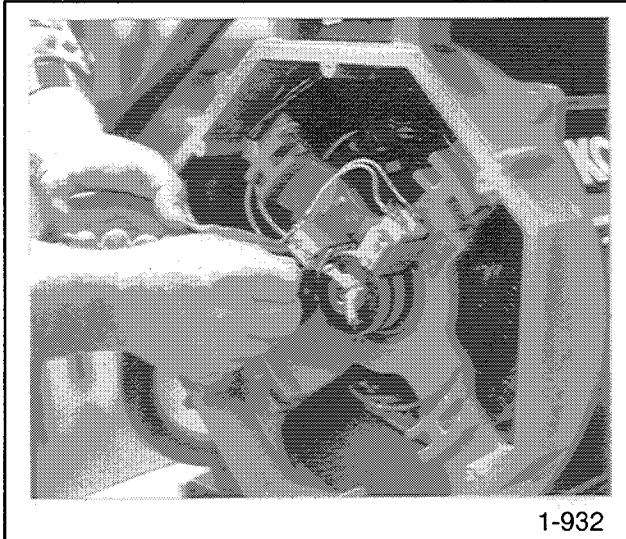

Figure 8-6. Raising Brushes
14. Raise brushes in holders (two sets) by pushing leads upward in the slots. Retain brushes by inserting a length of wire or a paper clip. See Figure 8-6.